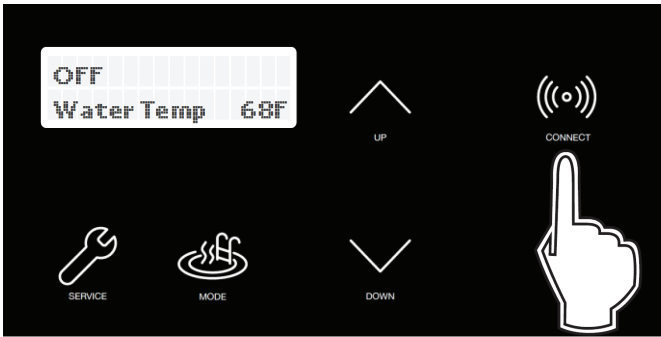

Figure 80. CONNECT Key
1. Stand near the display of the AVIA unit. Press the CONNECT key. See **Figure 80**.